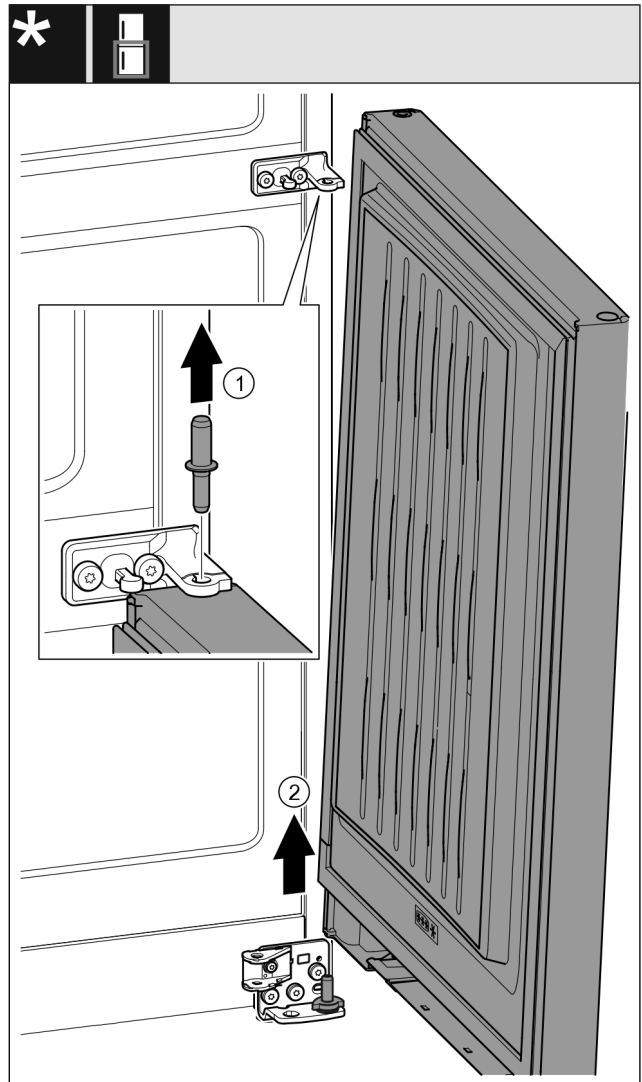

Fig. 22 *
- ▶ Pull out the pin Fig. 22 (1) upward.*
- ▶ Swivel out the door Fig. 22 (2), pull it upward, and set it aside.*